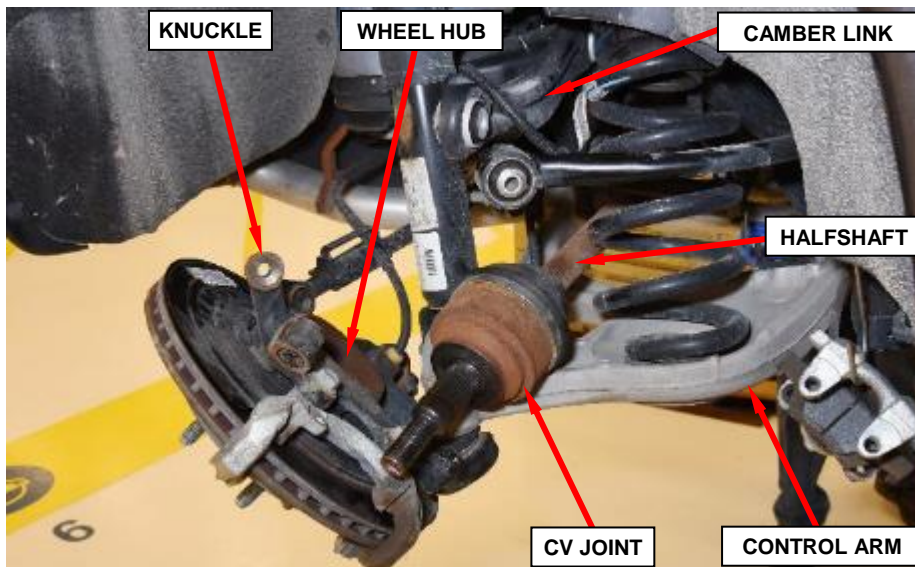

Figure 8 – Halfshaft Outer CV Joint
14. Remove the halfshaft outer Constant Velocity (CV) joint end from the wheel hub (Figure 8).
17. Lift the camber link up to provide clearance from chassis components while navigating the halfshaft past the chassis components during halfshaft removal (Figure 8). Remove and **discard** the halfshaft.
18. Lift the camber link up to provide clearance from chassis components while navigating the **new** halfshaft past the chassis components and into position (Figure 8).